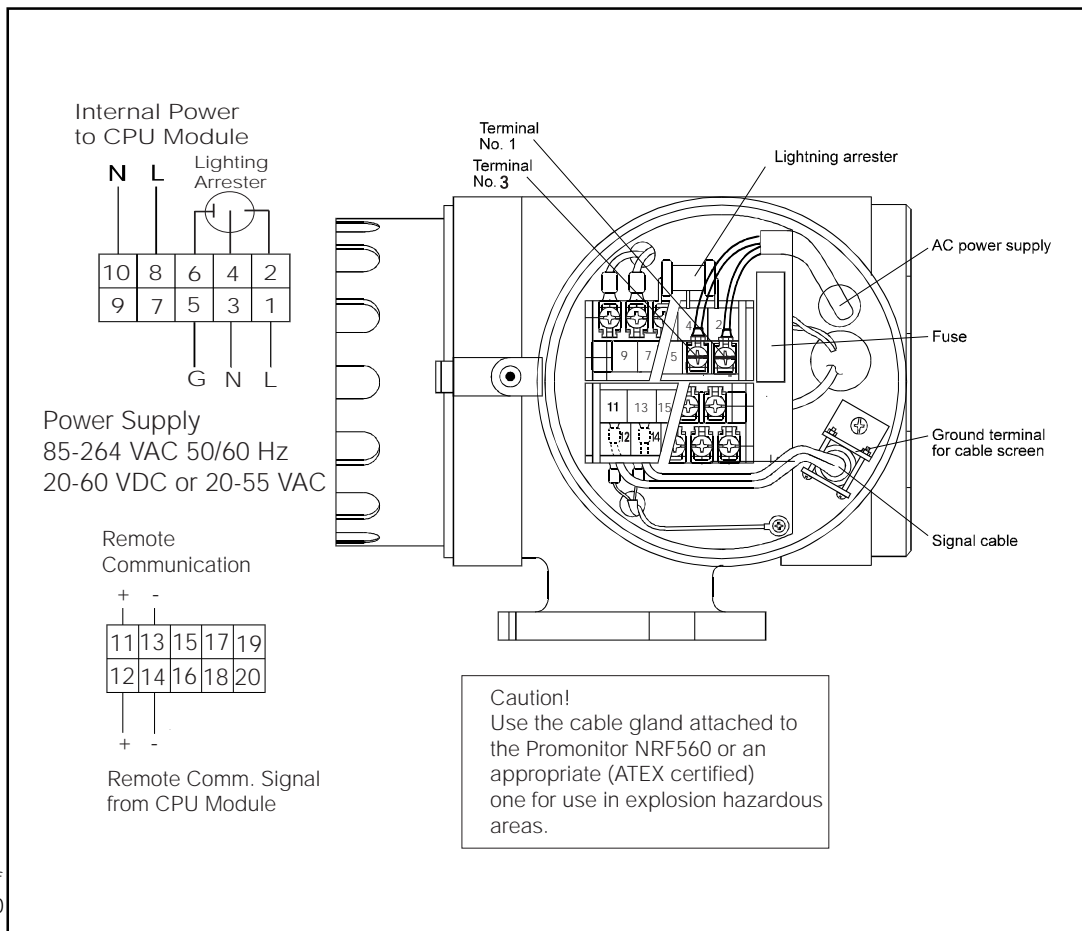

Fig. 6:
The electrical connection of the Promonitor NRF560 is shown in Fig. 6
- Connect cables to each terminal (see Fig. 6) We recommend a crimped connection.